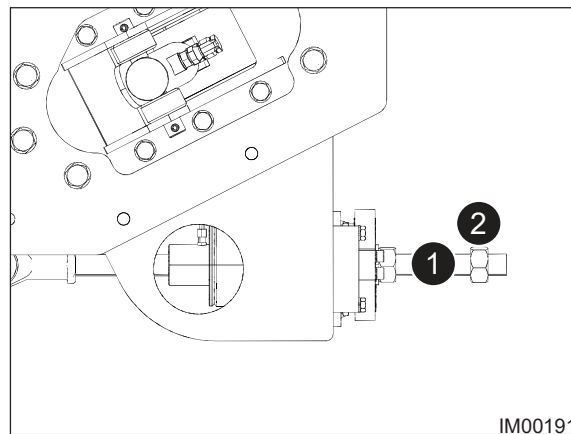

Fig: 7.9 - Tie Rod
4. Spray penetrating oil on the Tie Rod Threaded Bar (Item 1, Fig: 7.9).
5. Screw back the Lock Nut (Item 2, Fig: 7.9).